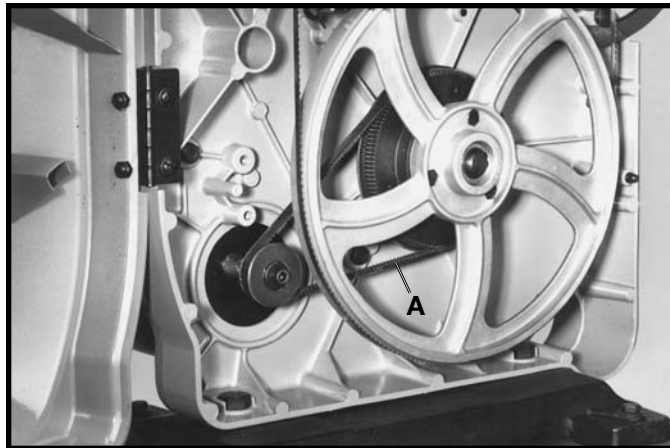
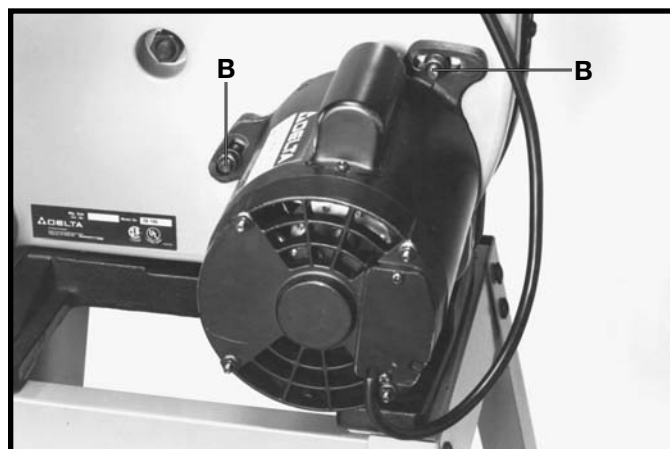

Fig. 36
Fig. 37
2. The belt (A) Fig. 36, drives the saw pulley from the motor pulley. Correct tension of the belt (A) is when there is approximately 1/4" deflection in the center span of the belt (A) using light finger pressure. If the belt tension needs adjustment, loosen three screws, two of which are shown at (B) Fig. 37, and rotate motor accordingly. Tighten three screws, two of which are shown at (B) when adjustment is completed.